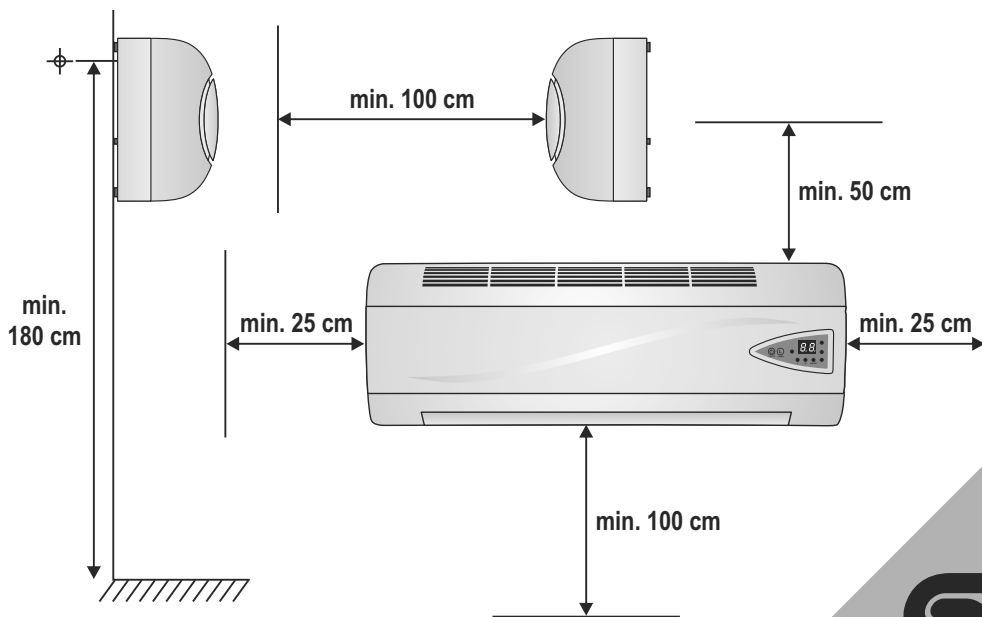

figure 2. • 2. ábra • 2. obraz • figura 2. • 2. skica • 2. skica • 2. obrázek • rys. 2. • 2. slika
3. The free flow of warm air must be ensured for proper operation, therefore, please select the location for wall mounting according to **Figure 2**. Do not locate the appliance directly below a wall outlet.
5. Never locate the unit directly in corners and observe the minimum mounting distances indicated in **Figure 2**. Always observe the health and safety regulations valid in the country of use.